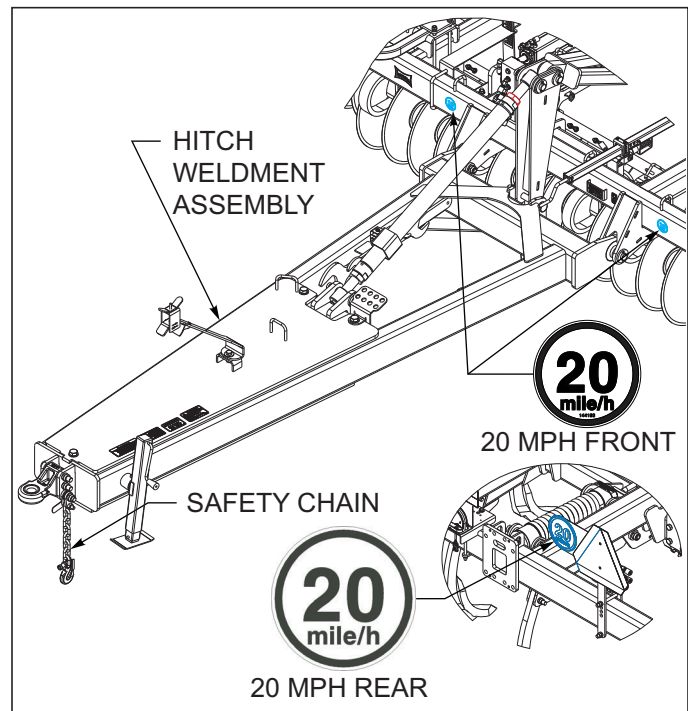

Figure 4-11: Hitch, Speed Identification Symbol, and Safety Chain
2. The 2132 Coulter Chisel should be transported only by tractor required for field operation. The implement weight should not exceed more than 1.5 times the tractor weight. Unless noted on the implement, maximum transport speed is 20 mph for the implement **See Figure 4-11**. Slow down when driving on rough roads. Reduce speed when turning, or on curves and slopes to avoid tipping.
- b. Attach the safety chain to the tractor drawbar **See Figure 4-11**. Provide only enough slack in the chain for turning. Do not use an intermediate chain support as the attaching point for the chain on the tractor. Do not pull the implement by the safety chain.